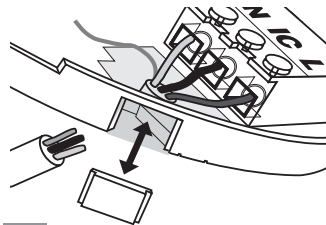

Fig.5
IC: Interconnect - see figures 5 and 6 and further information in Section 2.6.
- (b) the mounting plate has a removable section, take it out to interface directly with 25mm trunking as shown in Figure 5. If interfacing to 16mm trunking carefully cut around the marked section, leaving the top intact and replace the section. (If you are not using surface wiring, the removable section must be left in place for electrical safety reasons).